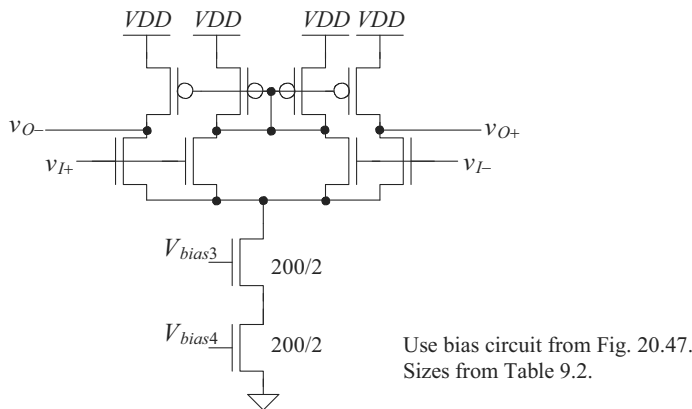

Figure 22.39 Fully differential diff-amp used in Problem 22.9.
- 22.9** The diff-amp configuration shown in Fig. 22.39 is useful in situations where a truly differential output signal is needed. Determine the following: (a) the transconductance of the diff-amp, (b) the AC small-signal drain currents of all MOSFETs in terms of the input voltages and g_{mn} (the transconductance of an n-channel MOSFET), and (c) the small-signal voltage gain, $(v_{o+} - v_{o-})/(v_{I+} - v_{I-})$. Verify your answers with SPICE.